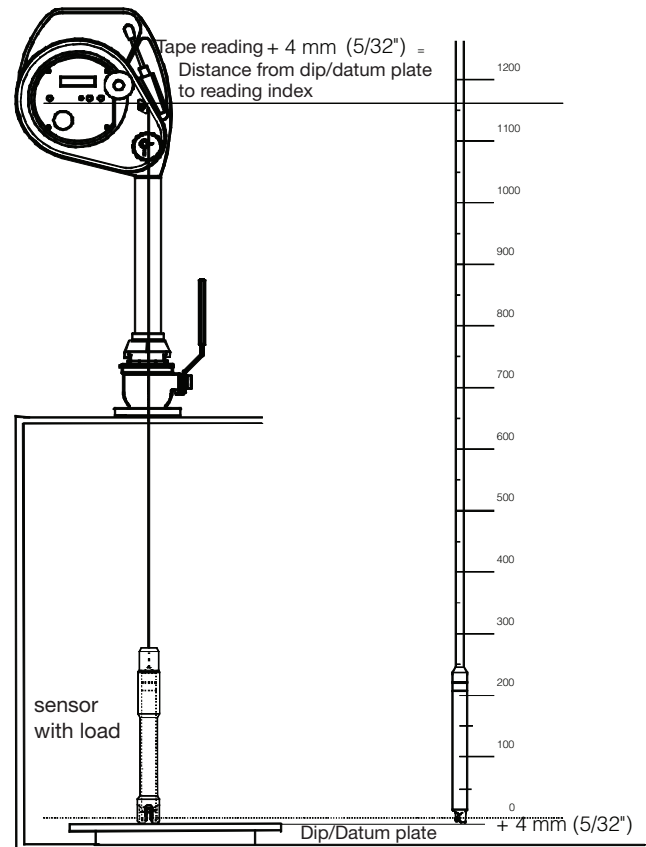

Figure 9-9
- When the sensing probe comes in contact with the dip/datum plate record the distance shown on the reading index. See Figure 9-9. The exact distance from the plate to the reading index is (reading + 4 mm) or (reading + 5/32”) which is the reference height providing the reading index level has been adjusted to the zero ullage level of the tank. If the tank zero ullage is levelled above or below the reading index, an additional correction shall apply. For more details refer to section “Installation of the gauging system”.